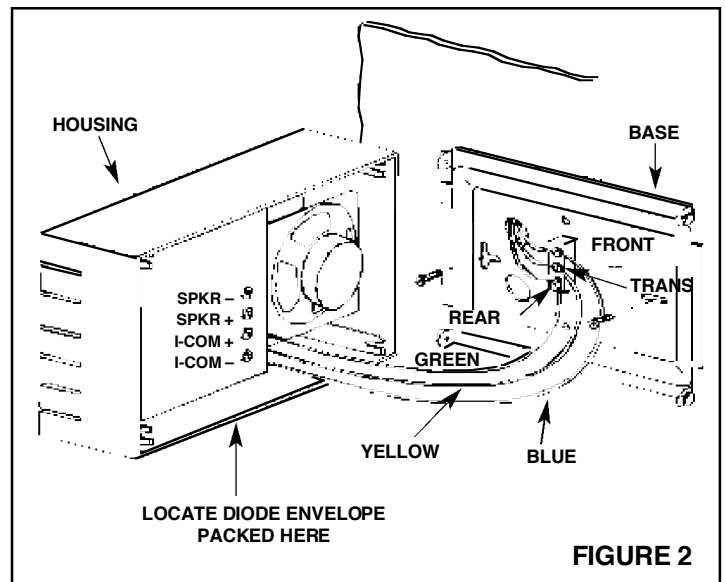

FIGURE 2
4. **Refer to Figure 2.** Determine whether the Musical Chime will be hung vertically or horizontally. Pull the remaining wires through one of the large holes in the baseplate.
3. **Refer to Figure 2.** Bring the wires through one of the large openings in the Musical Chime's baseplate. Fasten the baseplate to the wall with screws. If the chime is to be mounted vertically, use the two (2) slotted holes with T-shaped slots on the top.